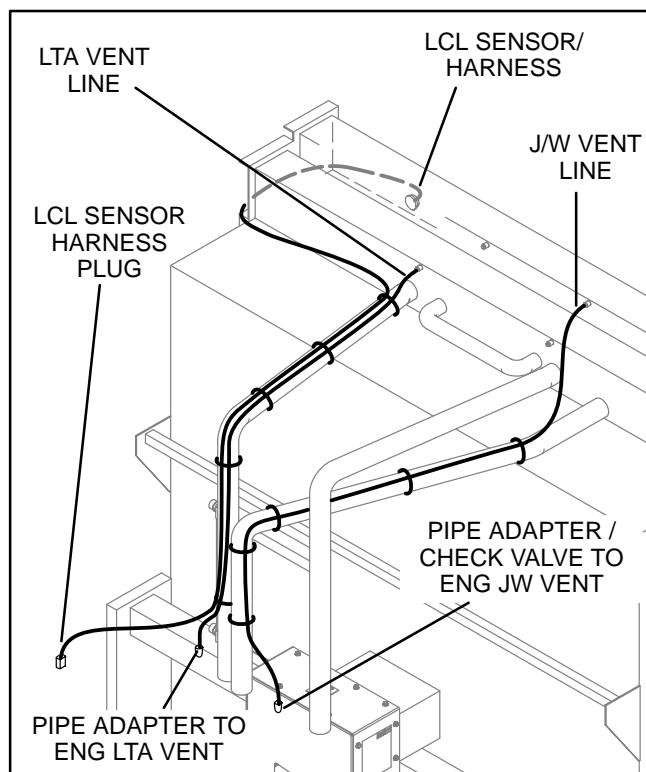

FIGURE 10-3. VENT PIPES/LOW COOLANT LEVEL SENSOR
1. Connect the vent line hoses. Be sure to install the check valve as shown in Figure 10-3.
4. Secure the vent pipes and harness to the radiator tubes with cable ties as shown in Figure 10-3.